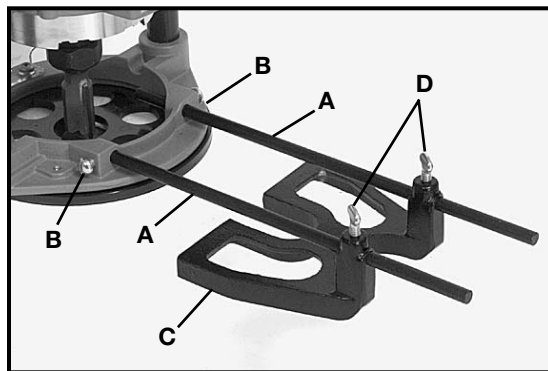

Fig. 18
To assemble, insert guide rods (A) in holes in base, Fig. 18, and secure with screws (B). The guide (C) is adjusted on the rods and secured in desired position with thumb screws (D).